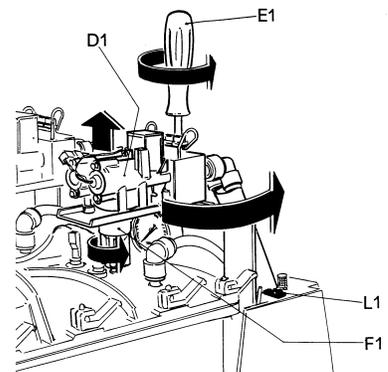

FIGURE 6
- Switch the main switch to the ON position (1).
- Make sure the switch (L1) is in the OFF position (0) - FIGURE 6 - (switch L1 controls the flow of the products in the bowls).